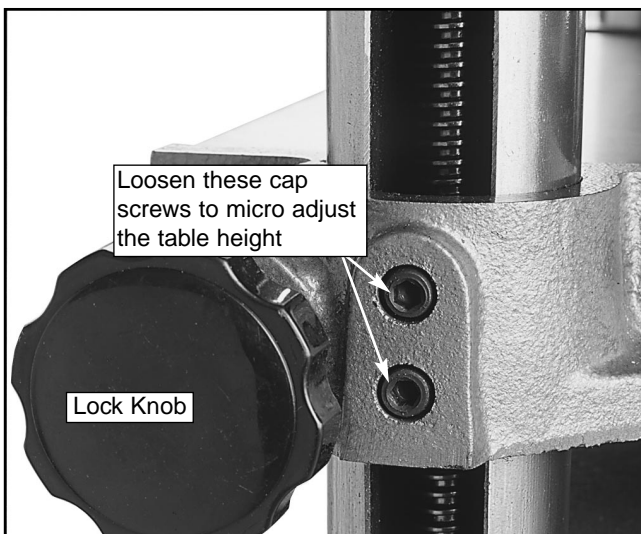

Figure 12. Cap screws for column adjustment.
6. Locate the two cap screws in the table casting for each of the columns. **See Figure 12.** Loosen both sets of cap screws for each column on the side you wish to adjust.